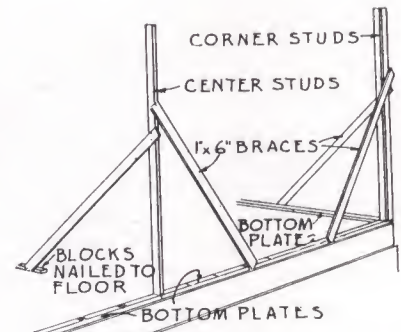

FIGURE 33
- (b) Erect the corner studs first. Brace them so they are plumb. Next erect the stud which sets over the joint between the end bottom plate and the plate next to it. Plumb and brace this stud (see Figure 33).